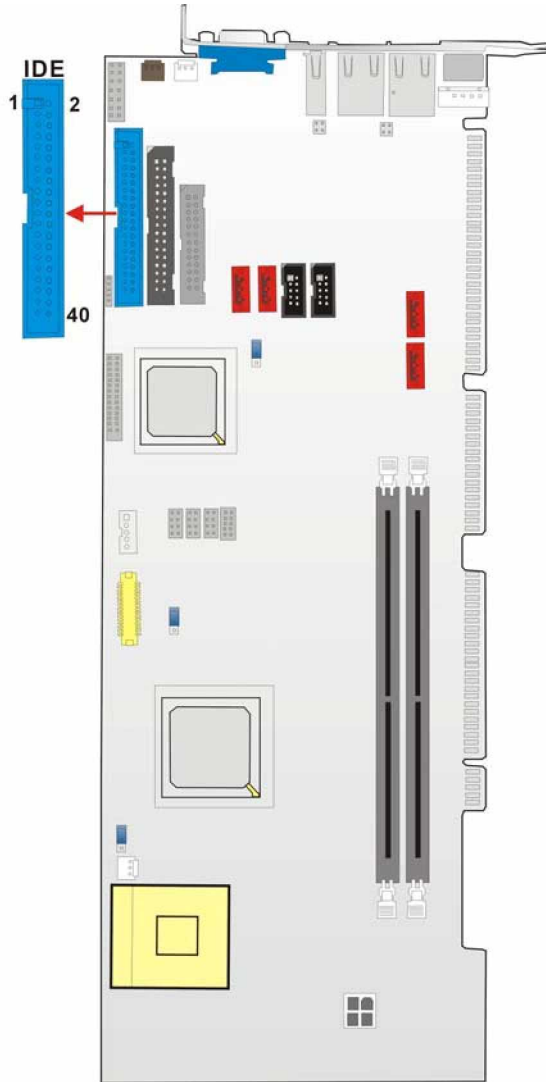

Figure 3-3: IDE Connector Location
- CN Location:** See Figure 3-3